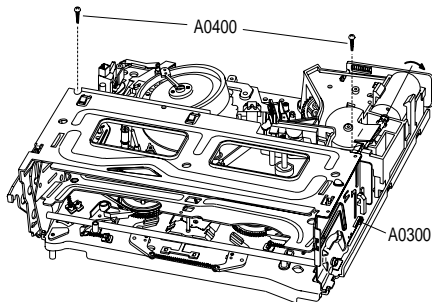

Fig. 3
The cassette compartment can be dismantled and built in exclusively in the mechanism Eject mode. In this position, the loading slide Pos. A0300 is fully moved to the back (Fig. 3):
- Press the "EJECT" button or turn the driver of the loading motor (in the direction of the arrow, see Fig. 3) until the cassette compartment is in Eject position.
- Undo 2 screws Pos. A0400 (Fig. 3).